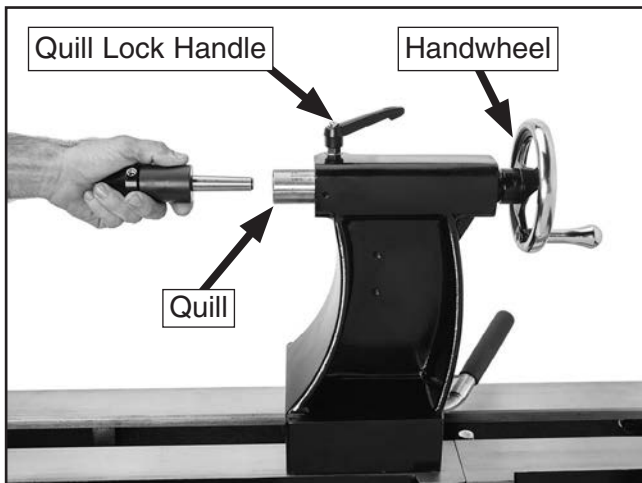

Figure 34. Installing center into tailstock quill.
1. Loosen quill lock handle, and rotate handwheel until quill extends about 1", as shown in **Figure 34**.
3. Firmly insert tapered end of center into tailstock quill, as shown in **Figure 34**.